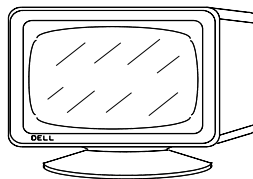

Figure 4-1. Front View, Display Monitor
1. Turn on the power switch on the monitor. Refer to Figure 4-1. For Dell Super VGA Monitors, the power switch is located at the lower right of the front of the monitor.